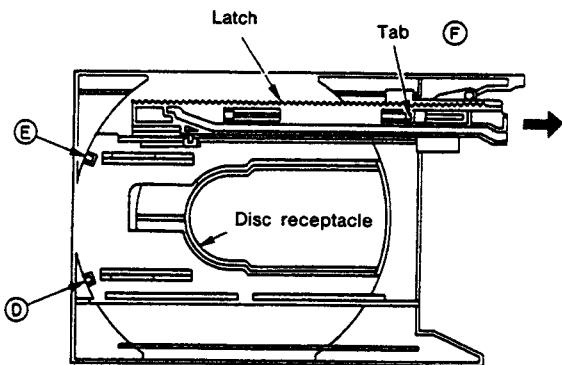

Fig. 4
(3) Replacement of the disc holder (Fig. 4)
With the tray removed, remove tabs ④ and ⑤ of the disc receptacle of Fig. 4, then lift up and off.
(4) Replacement of the latches (Fig. 4)
Set the latches into the condition of Fig. 4, lift the latch tab (F) up about 1 mm with a flat-bladed screwdriver and remove the rack in the direction of the arrow.